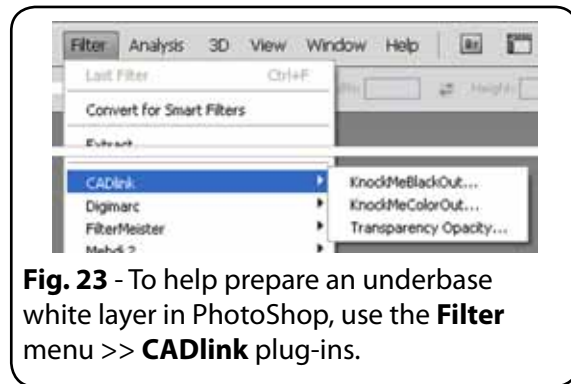

Fig. 23 - To help prepare an underbase white layer in PhotoShop, use the **Filter** menu >> **CADlink** plug-ins.
- There are three additional plug-ins (Fig. 23) to help you prepare images for printing to black or color garment material. They are accessed through the **Filter** menu >> **CADlink** flyout, and are used as follows: